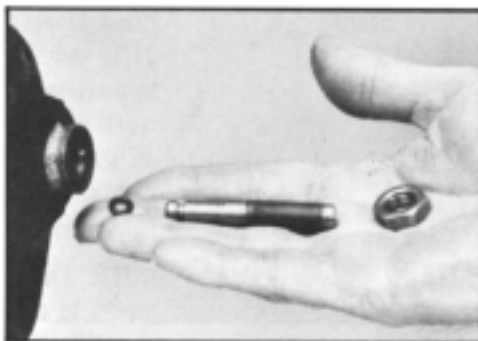

Figure 81
34. Remove poppet screw assembly or poppet screw and nut assembly from housing (55) as follows:
Remove nut (54), poppet adjusting screw (53) and o-ring (52). Discard o-ring. 11/16 inch socket required. SEE FIGURE 81.